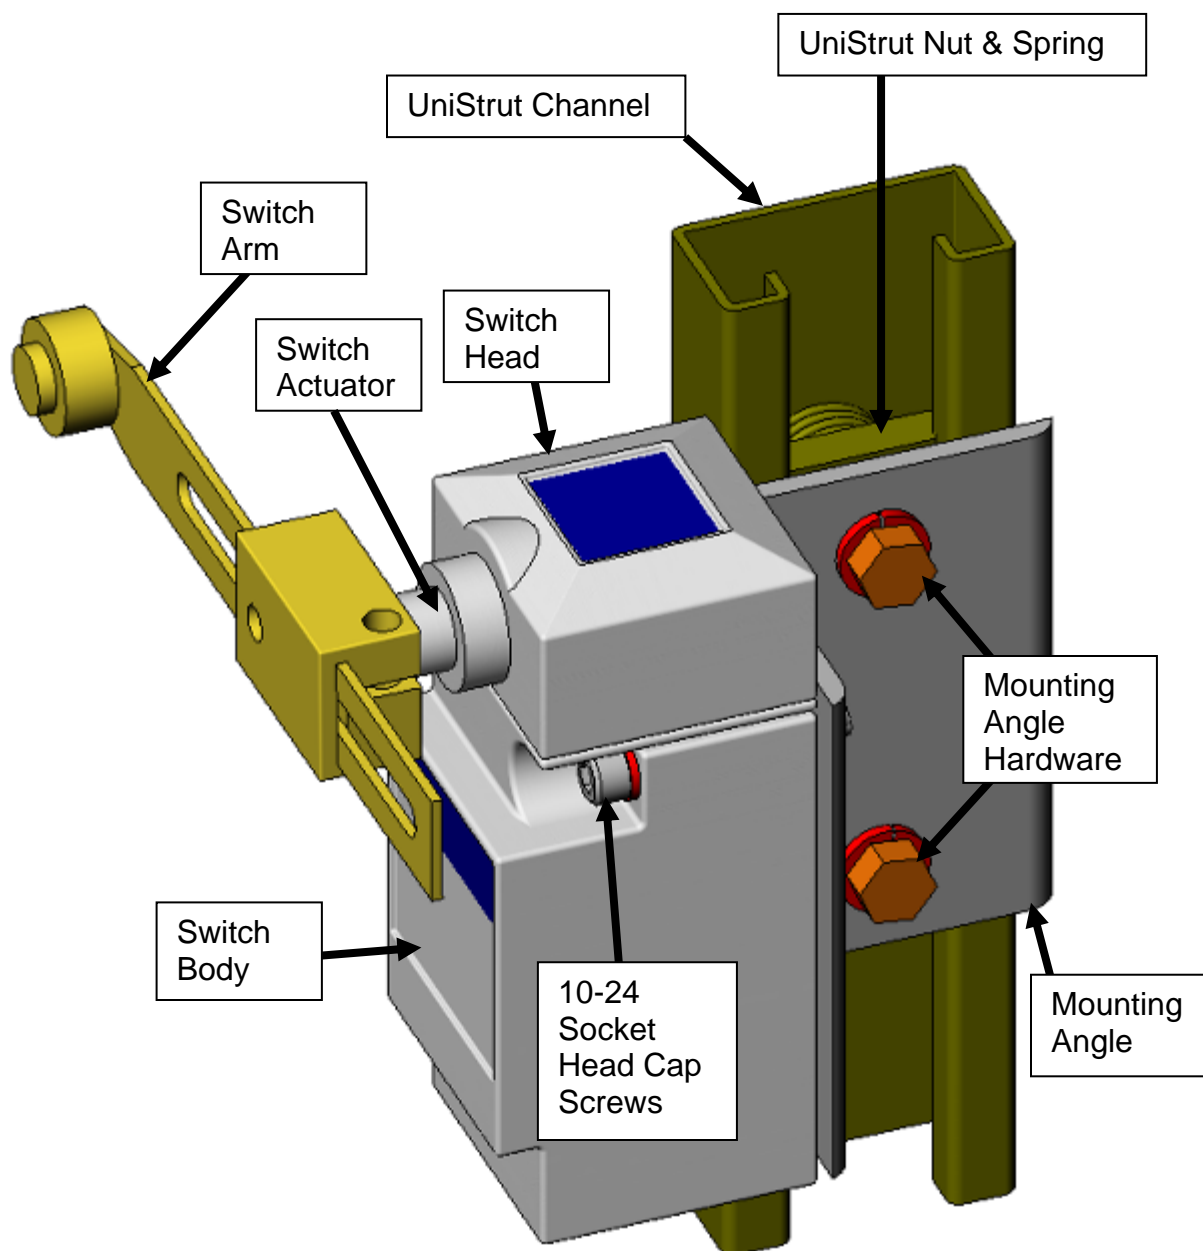

Figure 36 Level Limit Switch Kit Assembly
2. Find & assemble the adjustable limit switch kits as shown, including the Unistrut mounting channel (**Fig. 36**).